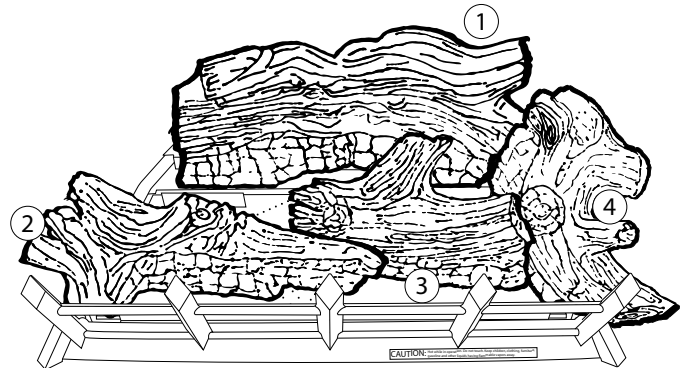

Figure 52.
4. Place the right log (#4) on the bar located on the right side of the burner. (See Figure 52)